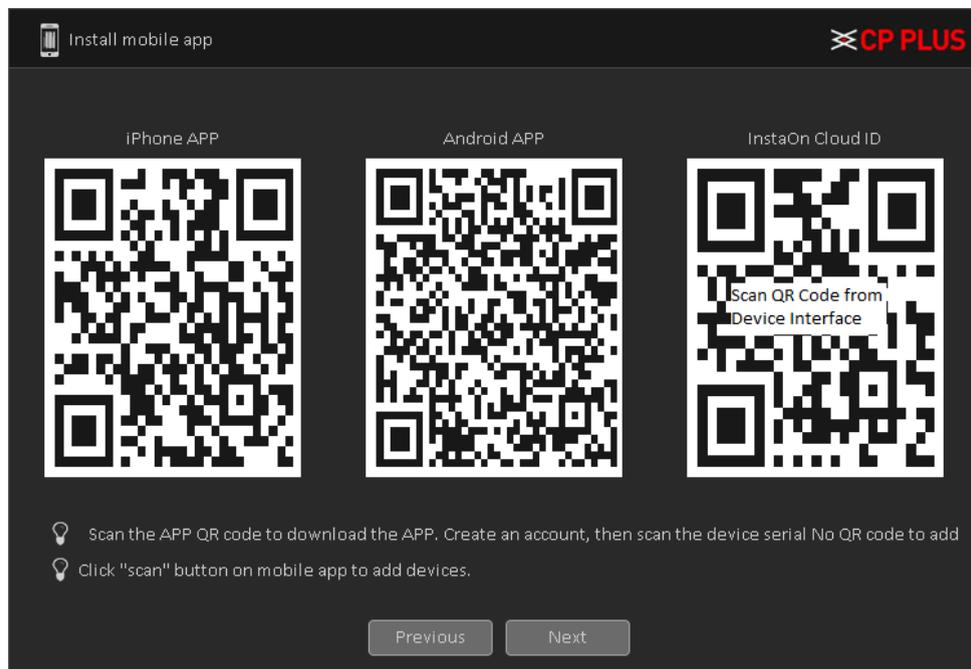

Figure 3.19
- Click on Next button, now user will go to install mobile app. See Figure 3.19. Here user will get QR code link to redirect mobile application for android and IOS base. And also, user will get QR code to get serial No. of device for InstaOn.